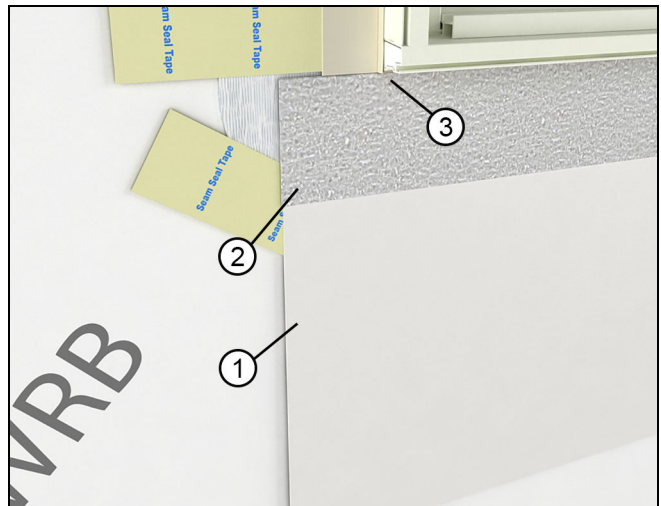

Figure 274
5. **OPTIONAL SKIRT:** Install an optional "skirt" in applications with exposure to wind driven rain/climate. Use flashing material or a 12" (305) strip of WRB and attach to the sill of the window with seam seal tape or flashing tape. See Figure 274.